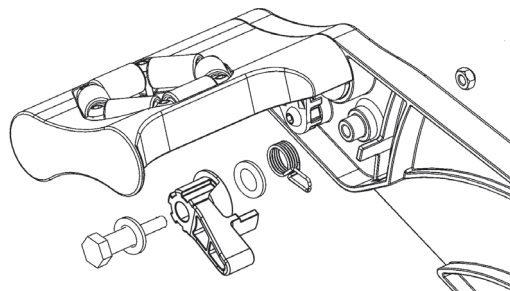

Fig. 18
1. Remove the nut that fixes the latch (fig. 18).